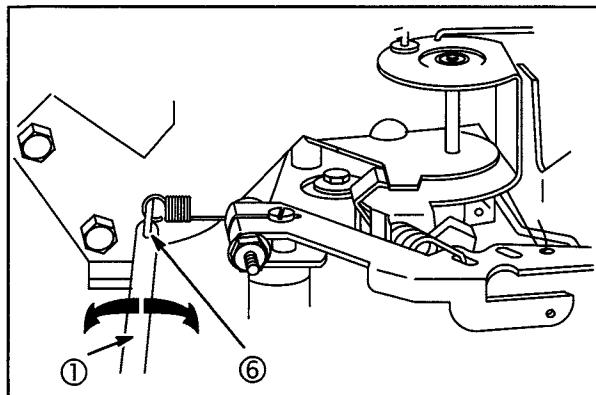

Fig. 43
6. Use tang bender (1) to bend governed idle tang (6) to obtain RPM shown, Fig. 43: